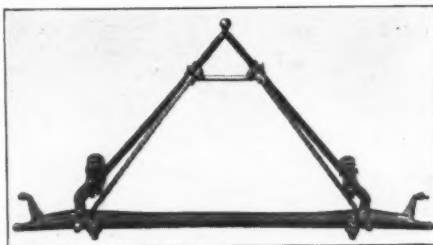

Fig. 5—Cox radius rod support
**Cox Radius Rod Support—**For the purpose of providing greater rigidity to the front axle construction of the Ford, the Cox Brass Mfg. Co. has brought out a reinforcement, Fig. 5, in the form of an extra set of radius rods that clamp on to the bottom flange of the axle and also to the main radius rods back near the ball joint. It is stated that with this addition there is no tendency for the axle to tilt backwards.